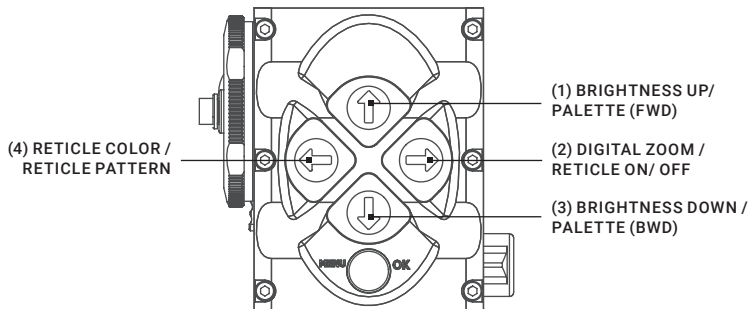

FIGURE 2-21. SETTING BUTTONS
8. Using the buttons on the control panel (Figure 2-21), configure the Python to adapt it to your situation.